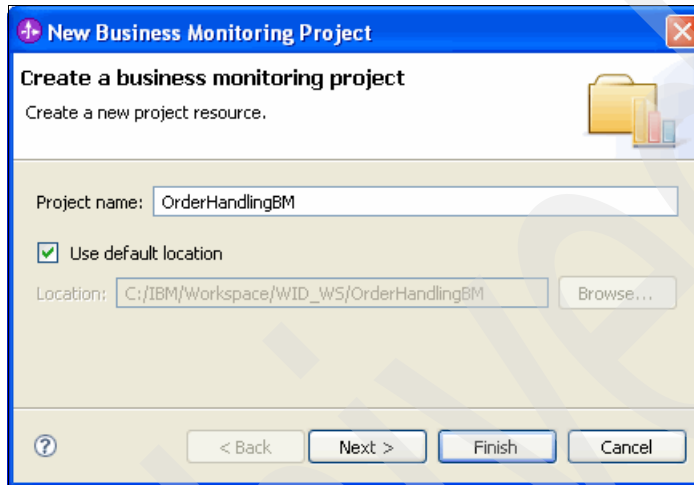

Figure 8-48 Setting the new business monitoring project name
- b. In the New Business Monitoring Project window (Figure 8-48), for Project name, type OrderHandlingBM and click **Finish**.